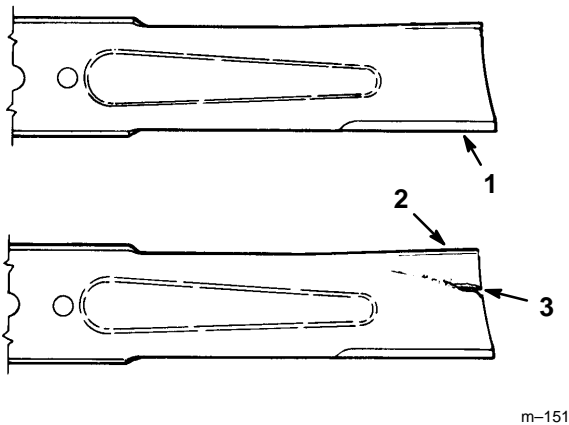

Figure 15
1. Inspect the cutting edges (Fig 15). If the edges are not sharp or have nicks, remove and sharpen the blades. Refer to Sharpening the Blades on page 33.
2. Inspect the blades, especially the curved area (Fig. 15). If you notice any damage, wear, or a slot forming in this area (item 3 in Fig. 15), immediately install a new blade.